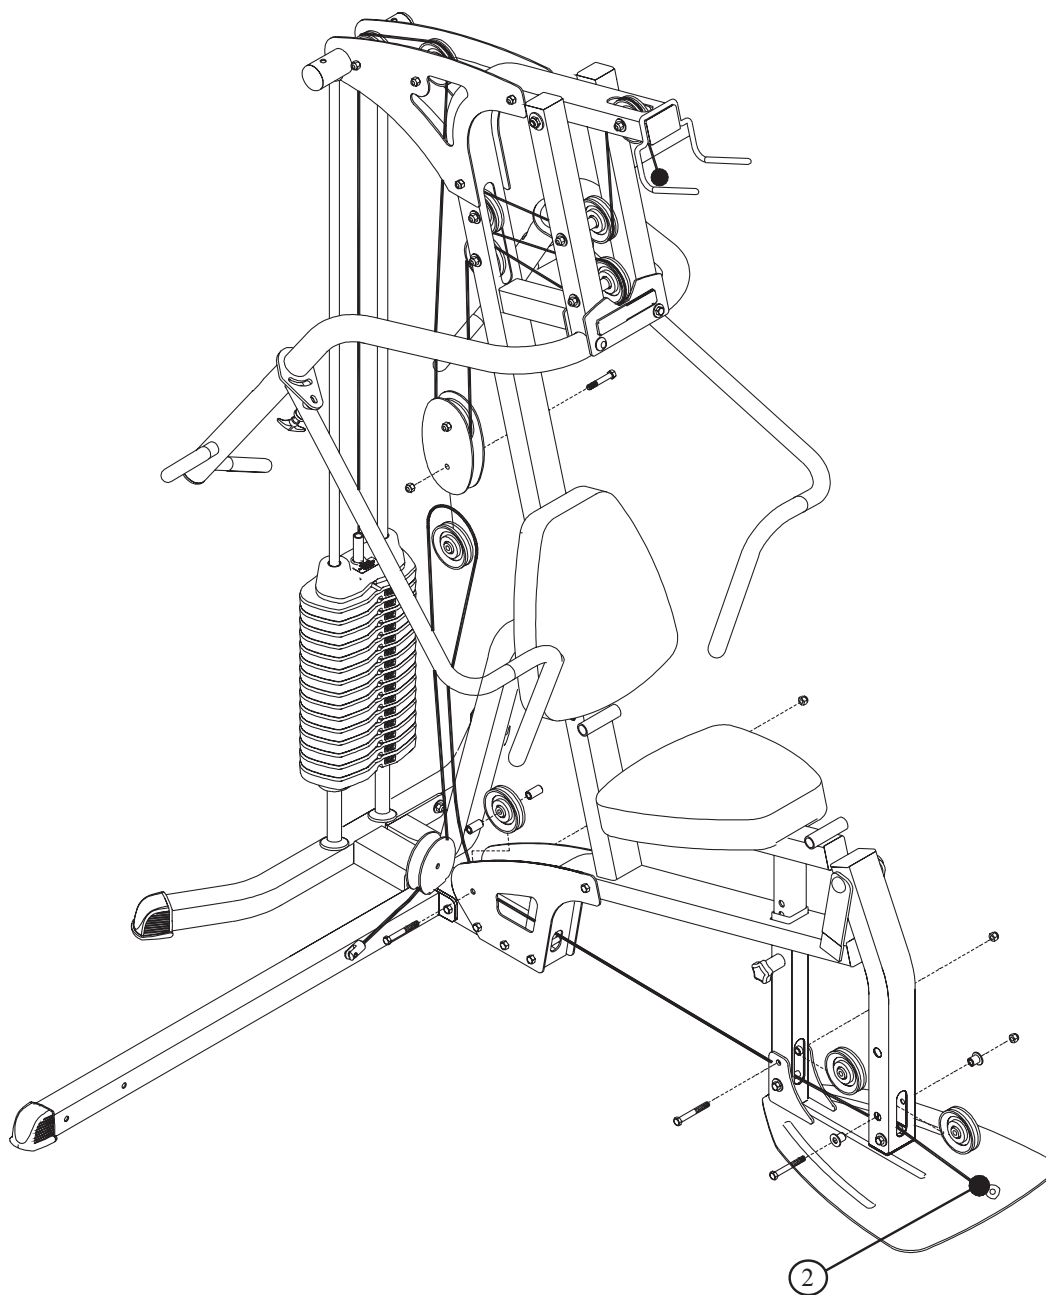

FIGURE 3
- Assemble the new LEG PRESS CABLE (2) using the previously removed bolts as shown in FIGURE 3.